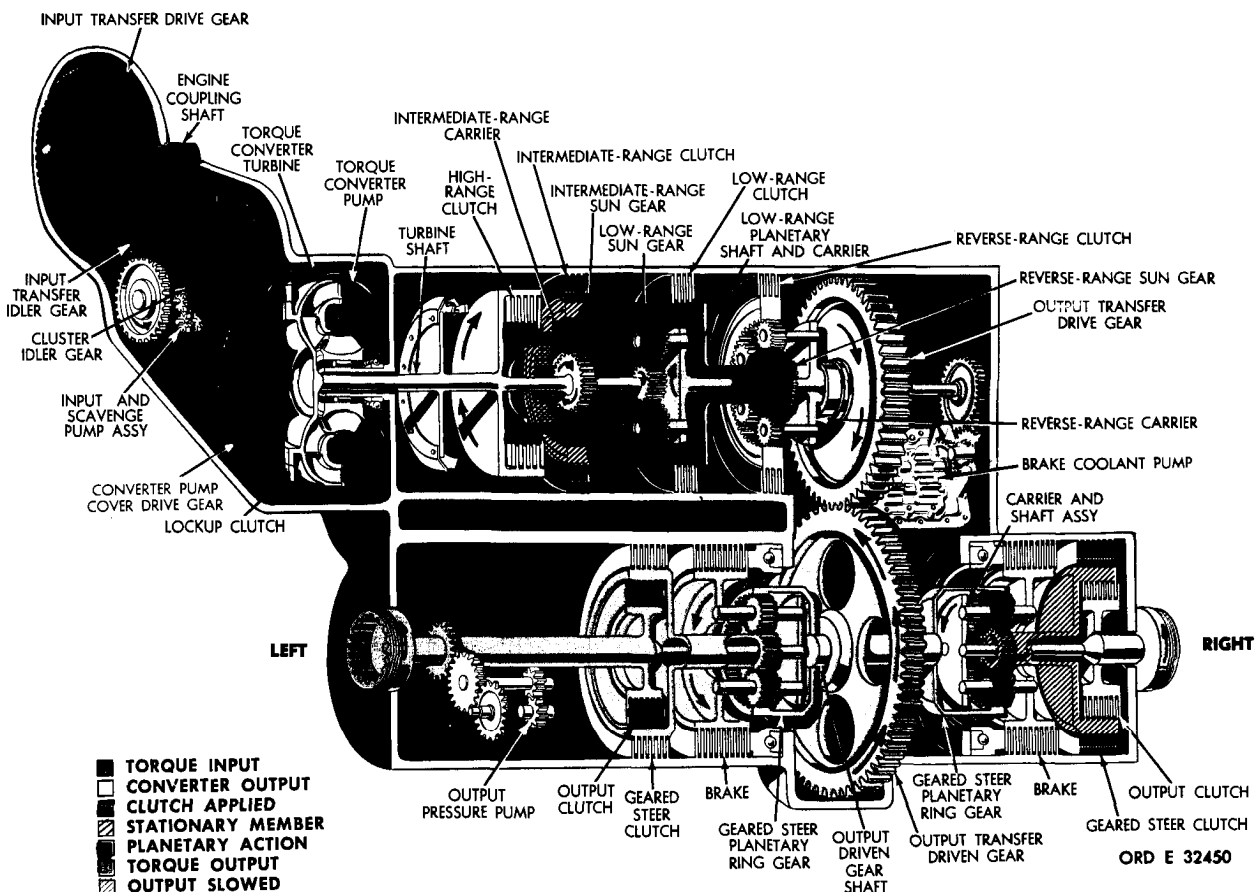

Figure 31. Third-gear, full-right-steer torque path, converter operation
55. TORQUE PATH - THIRD GEAR, FULL-RIGHT STEER, CONVERTER OPERATION (fig. 31)